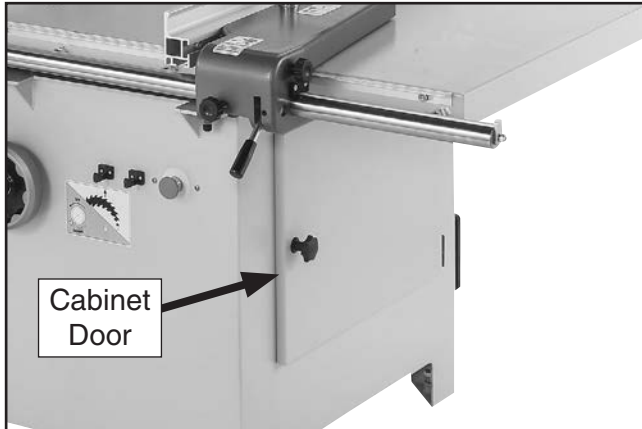

Figure 65. Cabinet door location.
14. Open cabinet door shown in **Figure 65**. This activates cabinet door safety switch to prevent saw from starting while door is open.